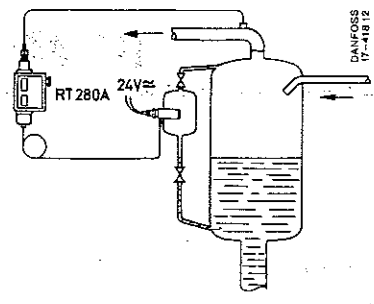
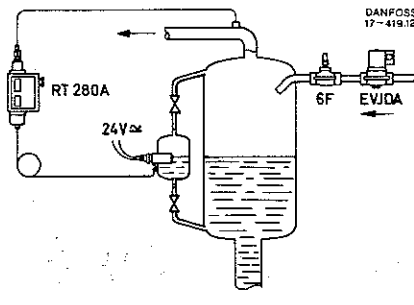

Fig. 2
Fig. 3
FITTING. See Figs. 2, 3, and 4
The weld bushing should be mounted vertically so that the lower edge of the bulb is at the same height as the max. permissible liquid level (Fig. 2) or, when used as a liquid level control, at the same height as the liquid level required (Fig. 3).
a. Safety cut-out (Fig. 2):
b. Liquid level control (Fig. 3):